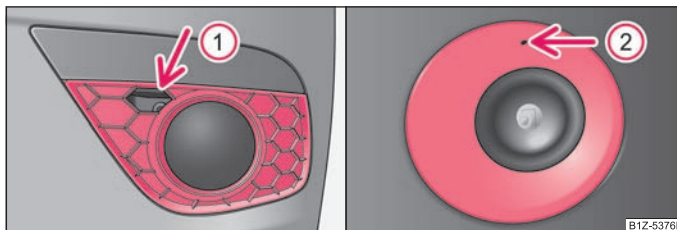

Fig. 198 Front bumper: Octavia RS/Octavia Scout
- Guide one finger into the opening **1** ⇒ fig. 198 and remove the cover.